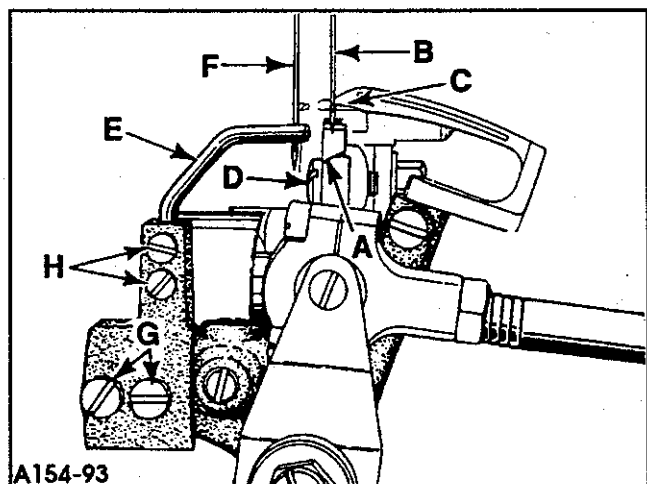

FIG. 15
Set the rear needle guard (A, Fig. 15) height so that when the looper point (C) is even with the right side of the right needle (B), the tip of the needle is approximately $\frac{3}{64}$ " (1.2mm) below the top of the guarding surface. Set the guard (A) front to back to touch but not deflect the right needle (B). Adjustment can be made by loosening screw (D), reposition guard as required and re-tighten screw.
Front needle guard (E, Fig. 15) must deflect the left needle (F) towards the path of the looper (C) as it moves behind the needle. The looper (C) must not touch the needle (F) at loop taking time, a maximum clearance of 0.002" (0.05mm) is permissible. Forward or rearward adjustments can be made by loosening screws (G), reposition guard as required and re-tighten screws. Height or rotation of guard should be $\frac{1}{3}$ up from the tip of the needle, this can be acquired by loosening screws (H), reposition as required and re-tighten screws.